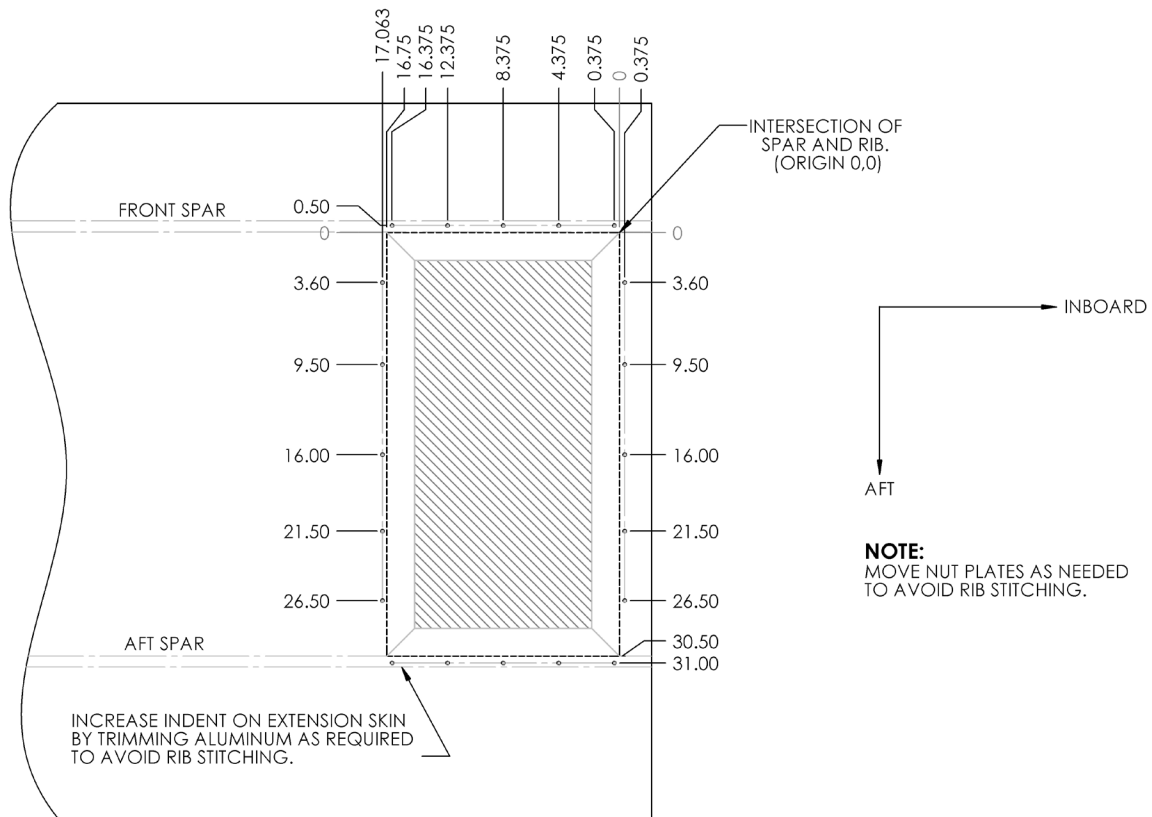

Figure 3a – Tank Bay Hole Locations (All Tolerances within 1/8”)
14. Mark out the hole locations for three sides of the tank bay lid with reference to Figure 3a and according to the following: